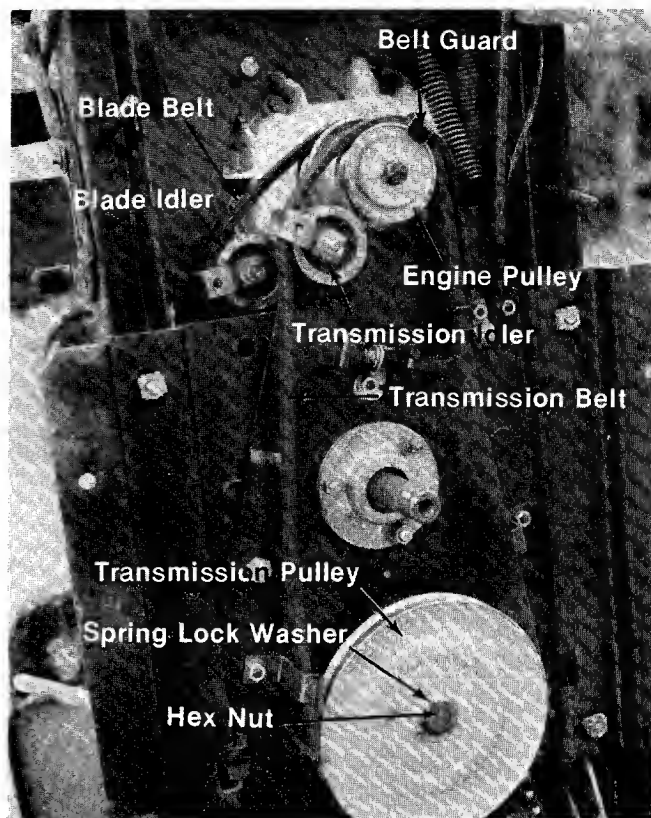

FIGURE 24. BELT SYSTEM
Step 4. Remove the transmission belt from the engine pulley. It may be necessary to spring the belt guard out of the way. When installing the new belt be sure to put the belt guard back in the original position. See figure 24.
Step 6. Remove hex nut and spring lock washer on the transmission pulley and slide the pulley out until the belt can be removed. See figure 24.
- Step 4. Remove the transmission belt from the engine pulley. See figure 24.
It may be necessary to spring the belt guard out of the way. When installing the new belt be sure to put the belt guard back in the original position. See figure 24.
CREEPING OR BELT WEAR. See figure 24.
DRIVE PULLEYS. See figure 24.
BELT WEAR—Belt Guards and Clips. See figure 24.
CREEPING. See figure 24.